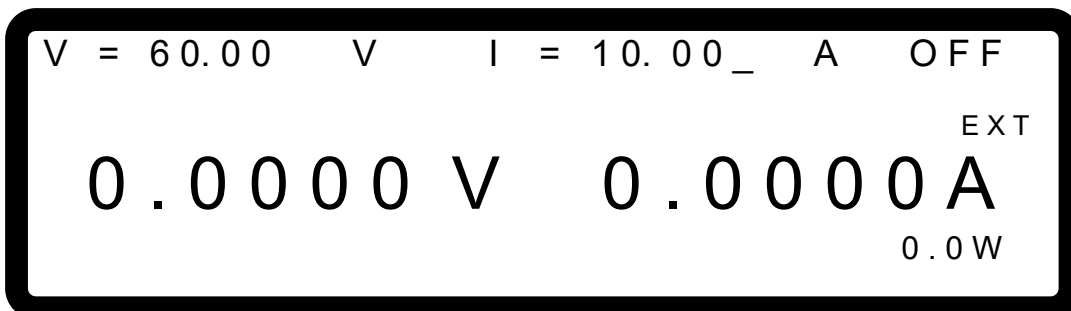

Figure 3-77
3. When the EXT. ON/OFF is enabled, the MAIN PAGE will appear the EXT message as Figure 3-77 shows.